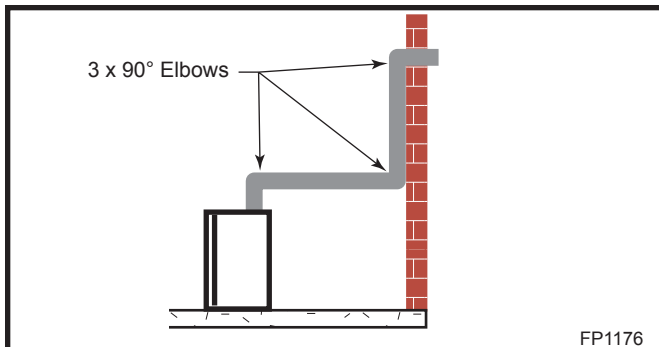

Fig. 11 Maximum three (3) 90° elbows per installation.
- The maximum number of 90° elbows per side wall installation is three (3). (Fig. 11)